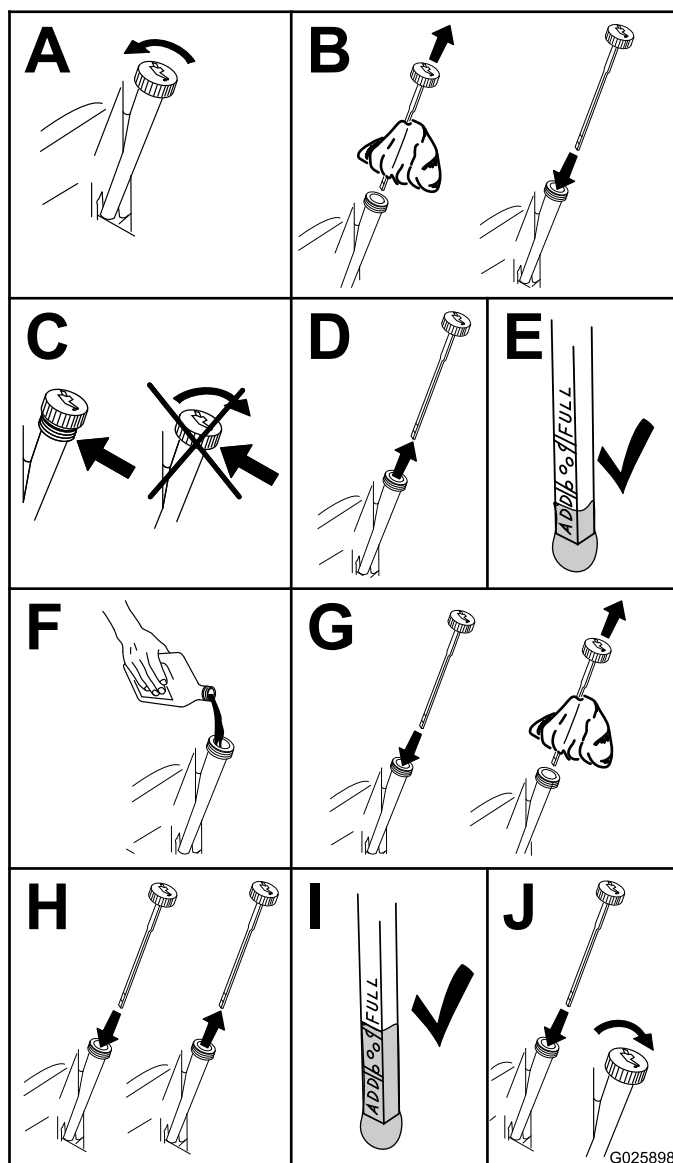

Figure 15
3. Check the engine-oil level as shown in Figure 15.